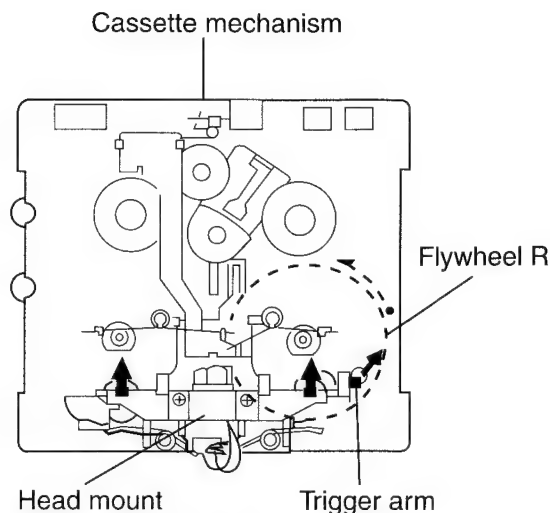

Fig. 1
■ Removing the Playback/Recording & Eraser Head (See Fig. 1 to 3)
1. While shifting the trigger arms seen on the right side of the head mount in the arrow direction, turn the flywheel R in counterclockwise direction until the head mount has gone out with a click (See Fig. 1).